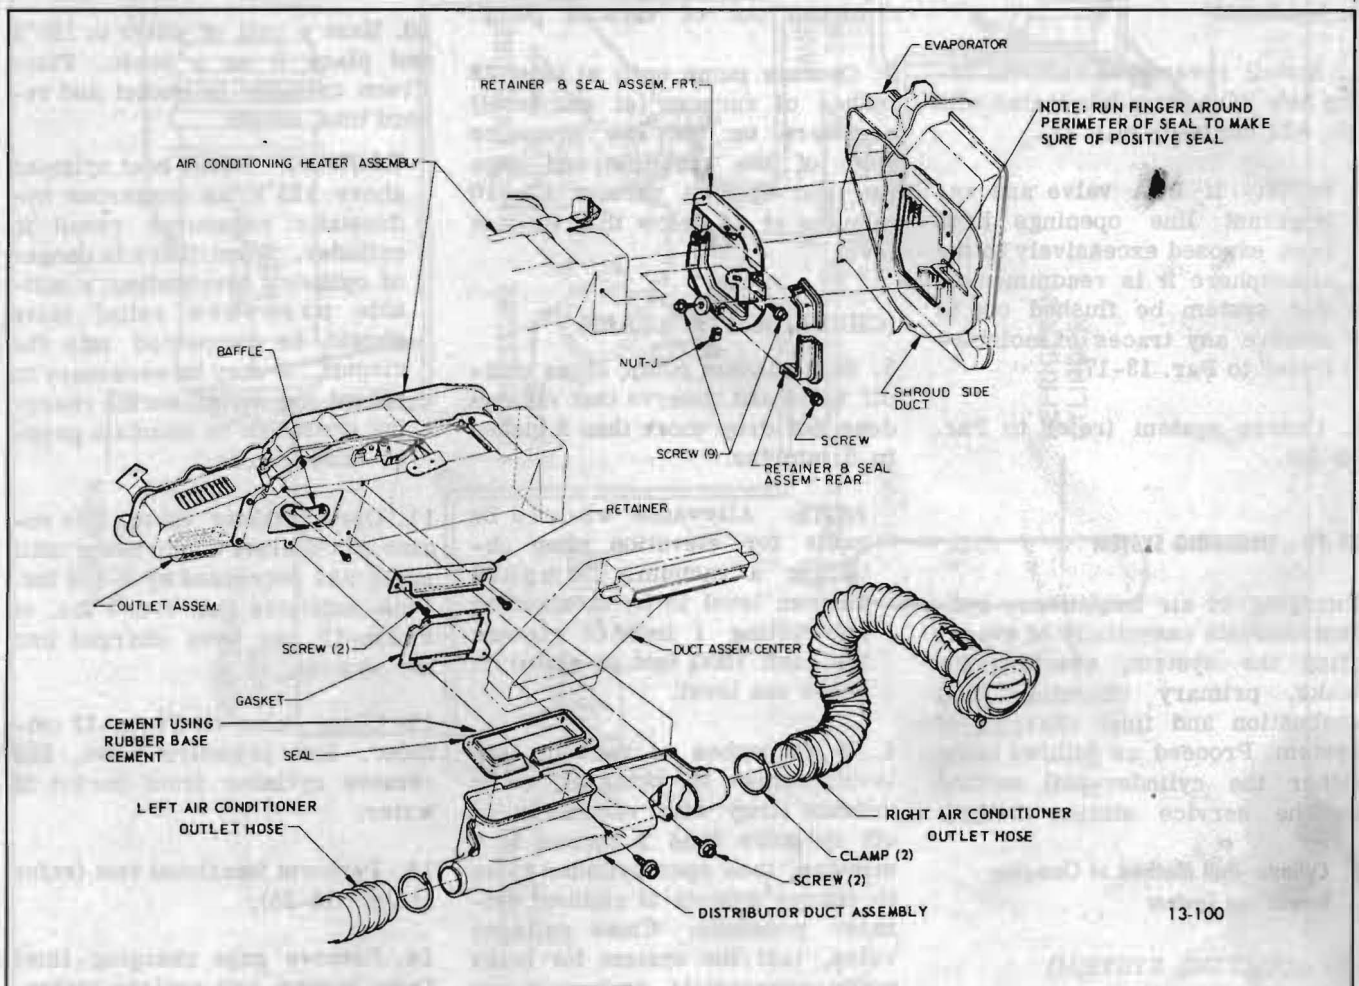

Figure 13-100—Distributor Duct Assembly, and Front Retainer and Seal Installation
6. Remove glove box and disconnect air conditioner outlet hoses from distributor duct (see Figure 13-100). Remove two screws securing duct to air conditioner heater assembly and take out distributor duct.
7. Disconnect temperature, air and defroster control cables (see Figure 13-2). Remove rear retainer and seal assembly (see Figure 13-100) and pull out air conditioner heater assembly.
4. Disconnect clamp from right air conditioner outlet hose (see Figure 13-100) and disengage hose from distributor duct.
8. Remove rear retainer and seal assembly (see Figures 13-100 and 13-103).
1. Disconnect clamp from left air conditioner outlet hose (see Figure 13-100) and disengage hose from distributor duct.